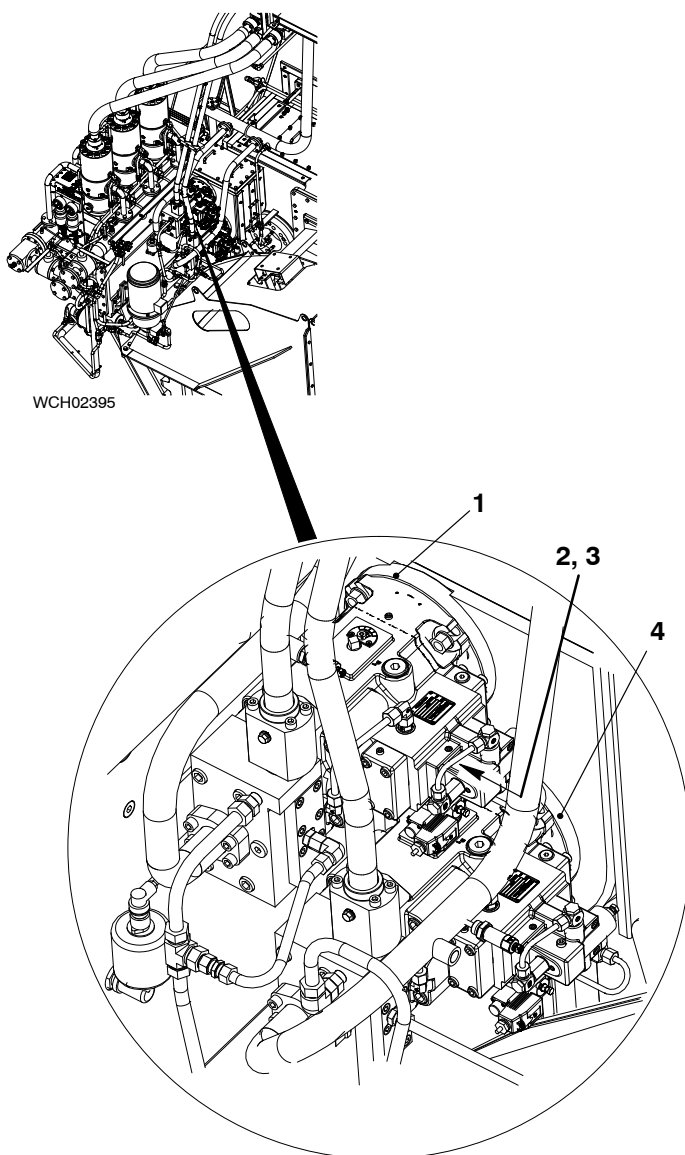

Fig. 1
- 1) While the servo oil pumps (1 and 4, Fig. 1) operate, listen for unusual noises. If you hear unusual noises, you must find the cause and correct the malfunction immediately.